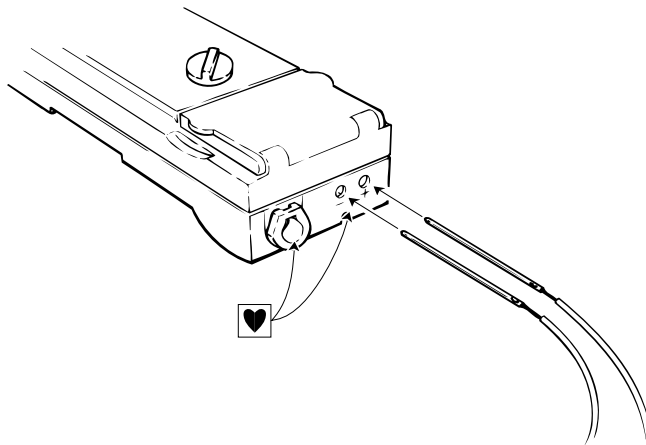

Figure 9-4. Connecting heartwires directly to the Model 5348.
2. Push the connector pins into the corresponding holes on the connector block as shown (see Figure 9-4).